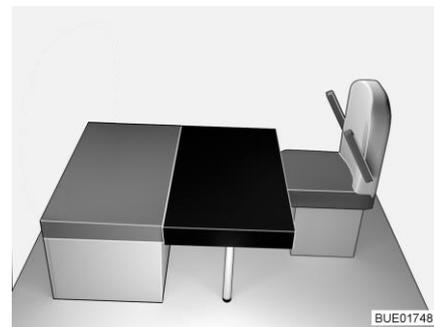

Fig. 161 After conversion
- Place the rectangular additional cushion on the table (in front of the seat cushion of the bench, see Fig. 161).